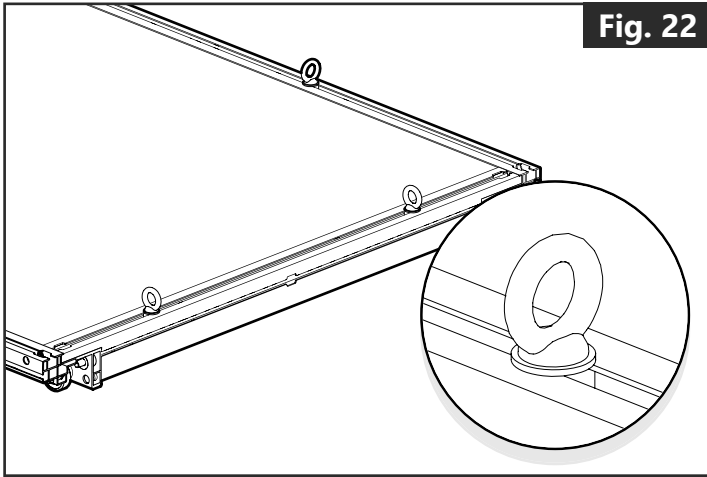

Fig. 22
- Designed for securing cargo to the Mountain Top Slide deck. **(Fig. 22)**